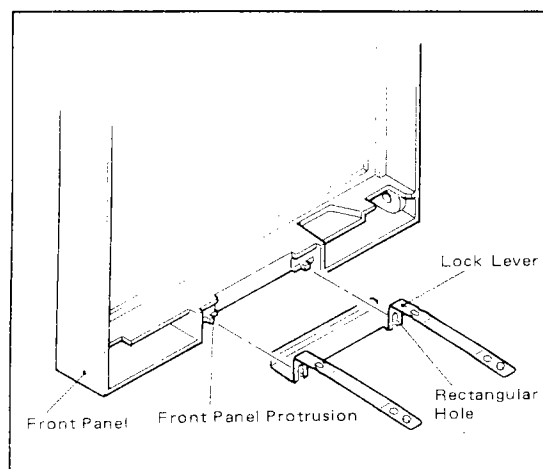

Figure 10-14. Attaching Front Panel.
- (7) Insert the bottom protrusions of the front panel into the rectangular holes of the chart drive unit lock lever and install and tighten the two lower front panel mounting screws (number 9) — (see Figure 10-14).